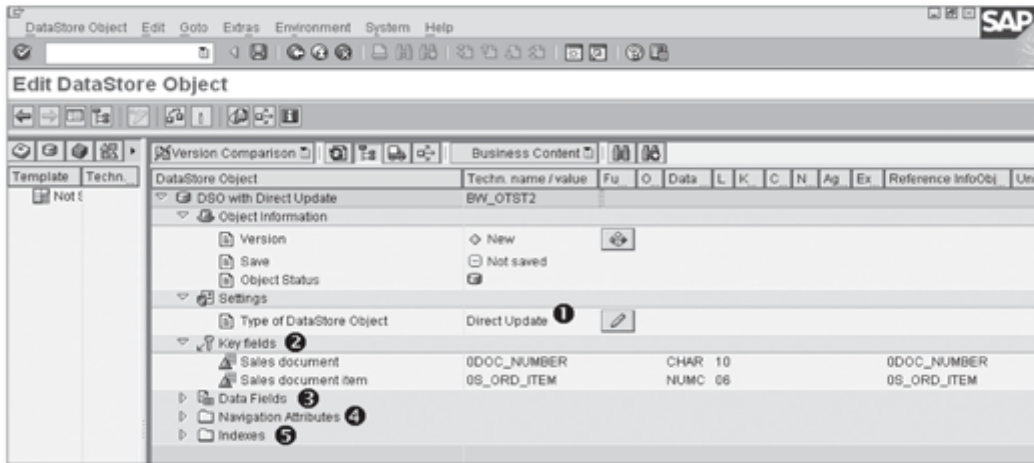

Figure 4.18 Creating a Direct Update DSO
When creating a direct update DSO, first change Type of DataStore Object to Direct Update, as shown in ❶ of Figure 4.18. This type of DSO contains a semantic key, which is defined while creating the DSO (❷). No other settings are available while creating a direct update DSO. You must also select the data fields (❸), navigation attributes (❹), and indexes (❺).